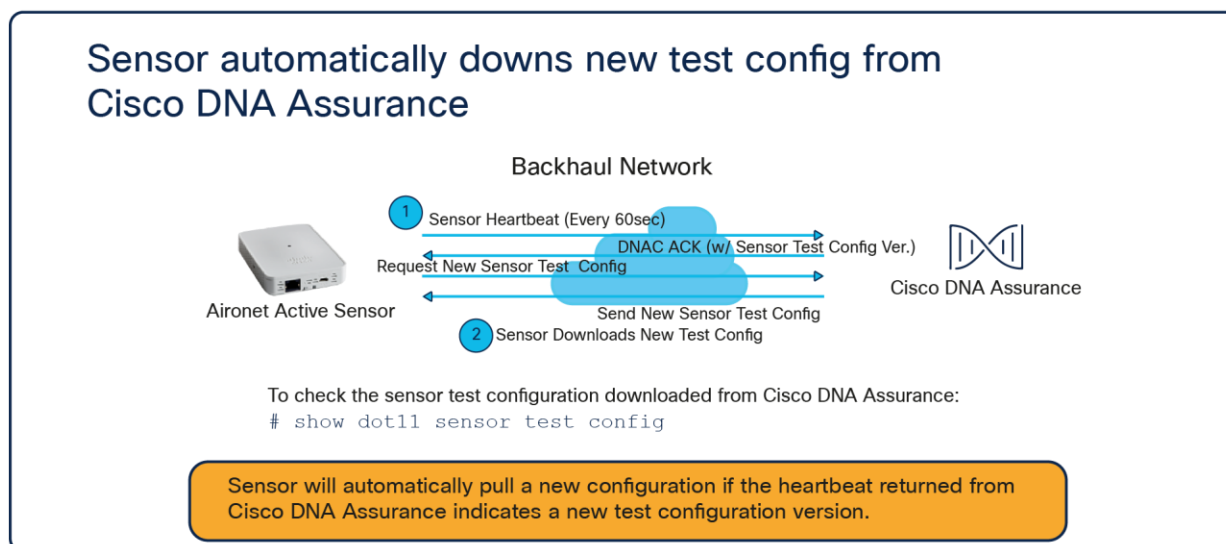

Figure 9.
- The sensor receives the test suite configuration directly from Cisco DNA Center (**Figure 9**).